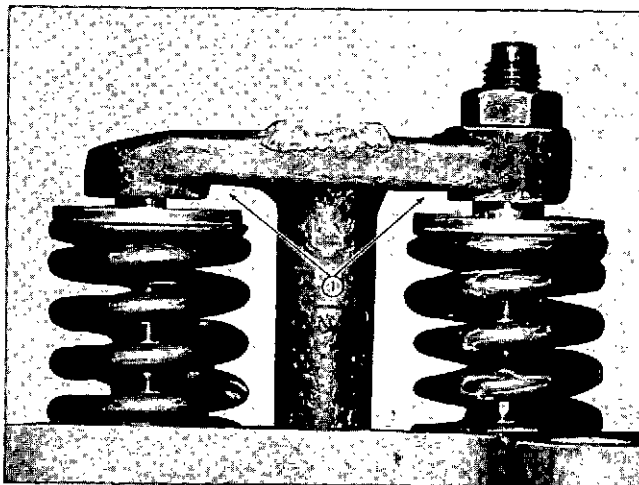

Fig. 14-1-67, V414208. Crosshead to valve spring retainer clearance
8. Using a wire gauge check to make sure there is a minimum of 0.025 inch [0.6350 mm] clearance between crosshead and valve spring retainer. Fig. 14-1-67.